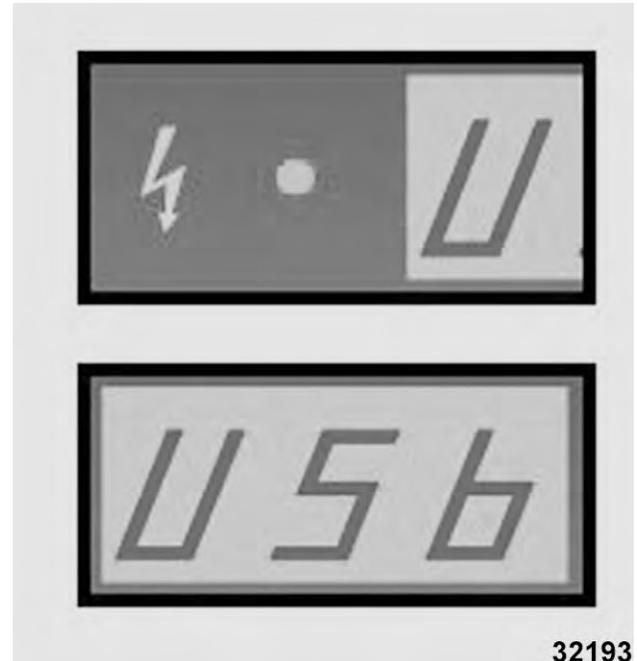

Fig. 35
- Temperature display will show USB (Fig. 35).